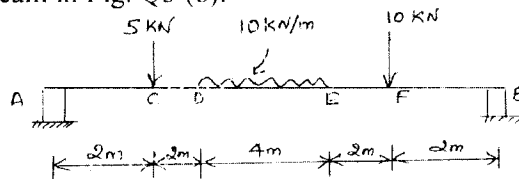

Fig. Q3 (b)
- b. Compute the reactions and draw shear force diagram and bending moment diagram for simply supported beam in Fig. Q3 (b). (14 Marks)